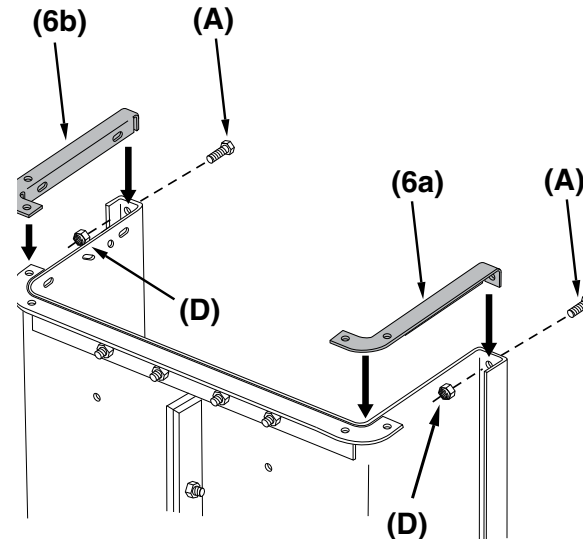

Figure 3
STEP 3 (SEE FIGURE 3): Assemble the LH (6b) and RH (6a) Rear Angles to the cart using two 1/4" x 5/8" hex bolts (A) and 1/4" nylock nuts (D). Make sure the lip on the top of the angle brackets is underneath the the lip on the cart bed.